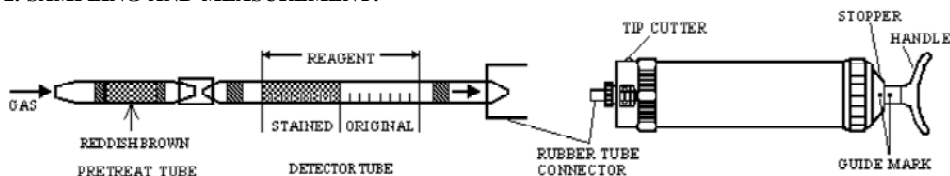

Fig.1
- ① Break both ends of detector tube and pretreat tube, and connect each end of the detector tube and pretreat tube with rubber tube connector as shown in Fig.1.
- ② Insert the detector tube into aspirating pump securely as shown in Fig.1 (Arrow mark shall point to the pump.)
- ③ Align the guide marks on the shaft and stopper of the aspirating pump.
- ④ Pull the pump handle at full stroke until it locks and wait for 1.5 minutes or until the completion of sampling is confirmed with the flow indicator of the pump (See descriptions about the flow indicator in the instructions of the pump).